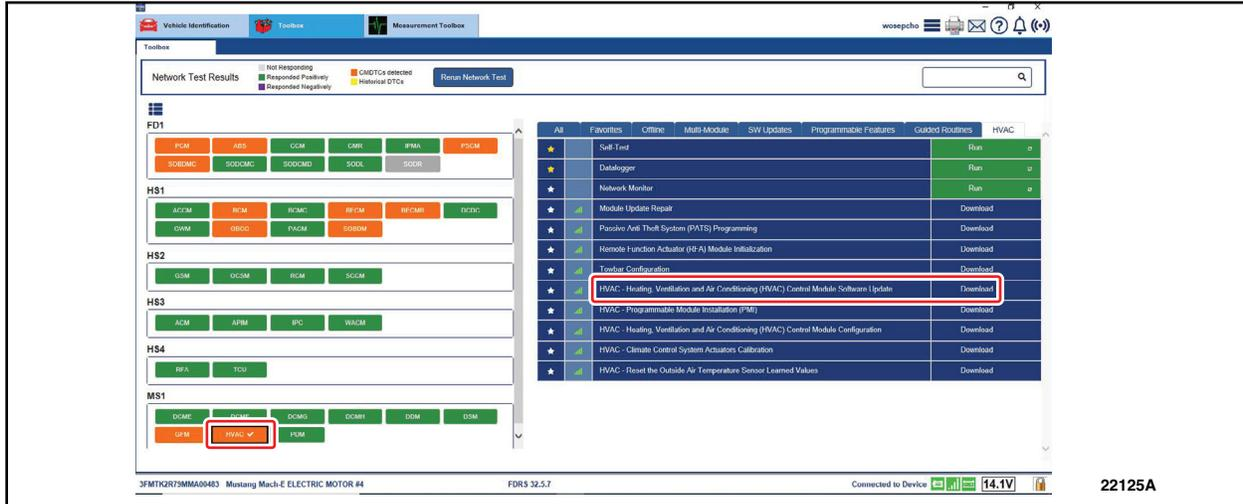

FIGURE 1
- Click **Download** and then **Run**. Follow all on-screen instructions carefully. See Figure 1.